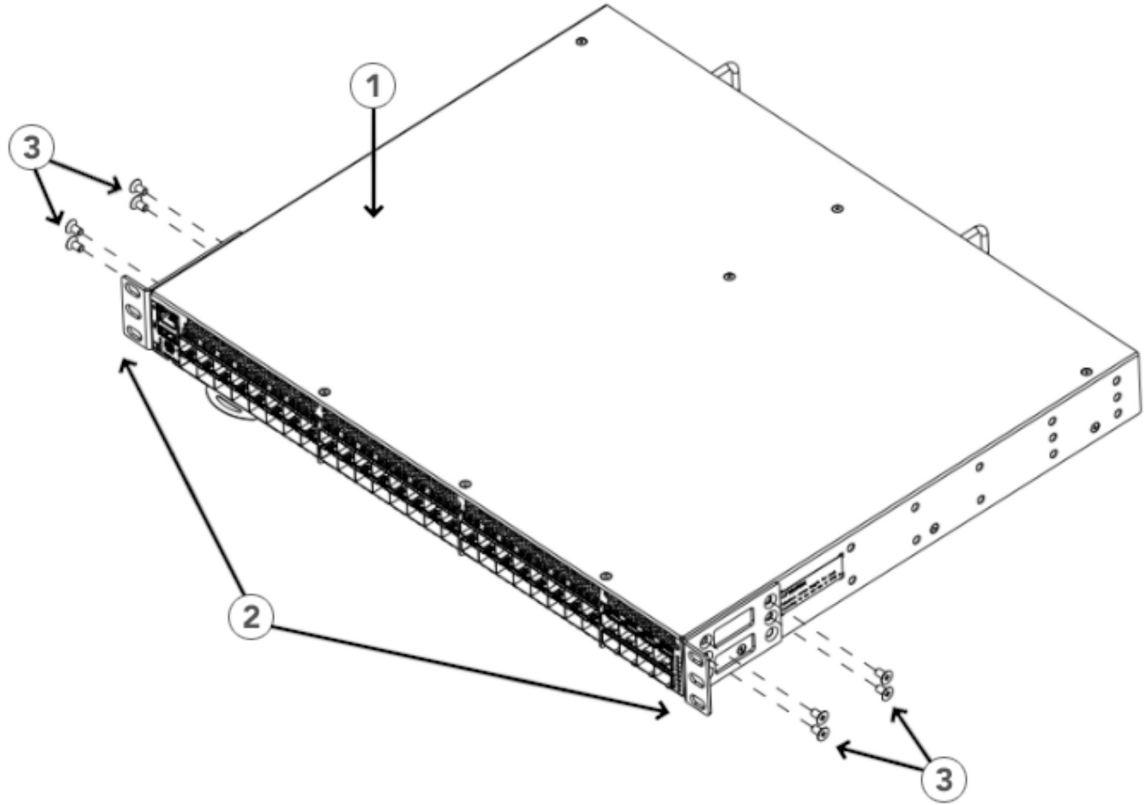

Figure 17. Attaching the front brackets
1. Position the right front bracket with the flat side against the right side of the device, as shown in Figure 17 on page 28.